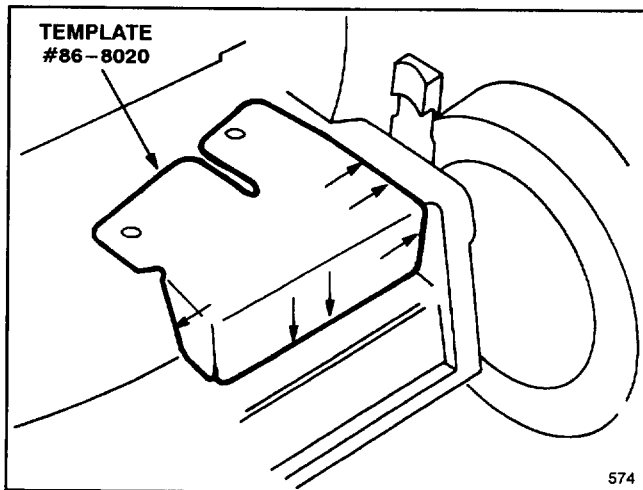

Figure 7
2. Position template #86-8020 so that all tabs are **fully** contacting mower deck on surfaces indicated in Figure 7. Mark holes with metal punch and remove template.